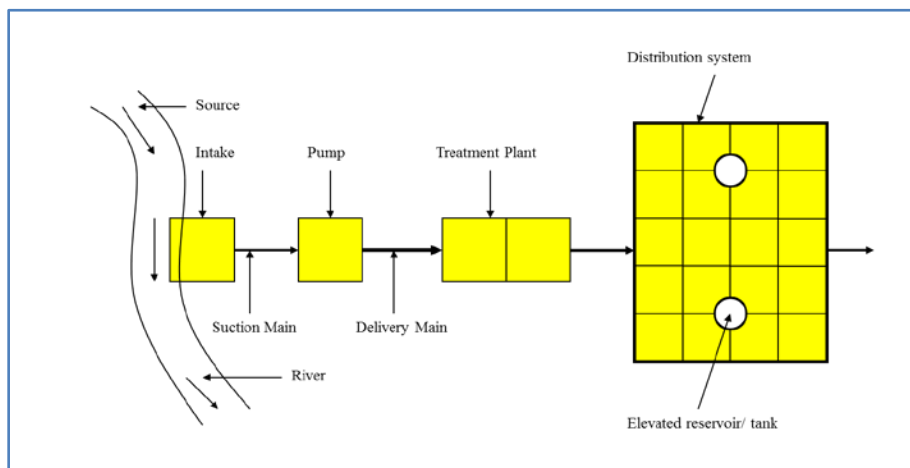

Figure 3: Repeat
- The pipeline from the source to the treatment plant (suction main in Figure 3) is known as intake main and transmission main.